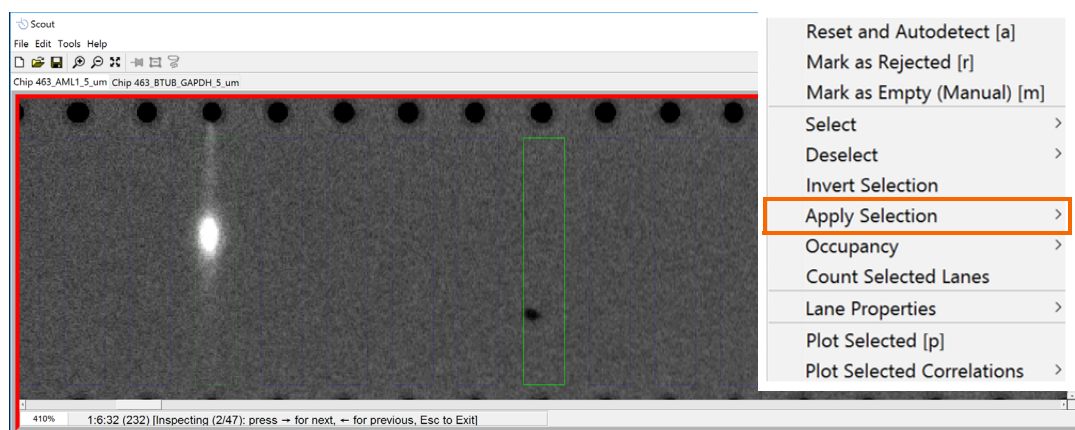

Figure 4-19: Inspecting lanes.
4. On the scan image, select **Tools > Inspect > Inspect selected lanes or [i]**. You can toggle through lanes containing selected peaks using the left and right arrows. During inspect mode, each lane in the selected set is highlighted and selected one at a time as they are viewed (Figure 4-19). While in inspect mode, the image field of view will be outlined in red. You can plot the selected lanes or select additional lanes to manipulate or plot. However, when the left or right arrow key is pressed, any selected lanes will be deselected and the next lane in the inspection set will be viewed and selected.
5. To change the peak tag for any mis-tagged peaks, select all peaks in the lane in the Peak Table by right clicking when the lane of interest is selected, using **Apply Selection > select on peak table** (or **[s]**) (Figure 4-19). Then tag the selected peaks in the peak table with the correct tag as described earlier.